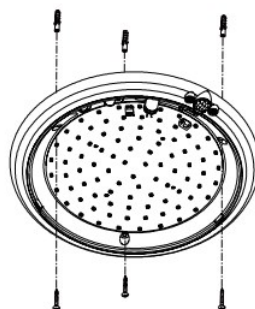

Fig.4
- Step6 Use the screw to fix the lamp base on the place where has been chosen (as **Fig.4**)